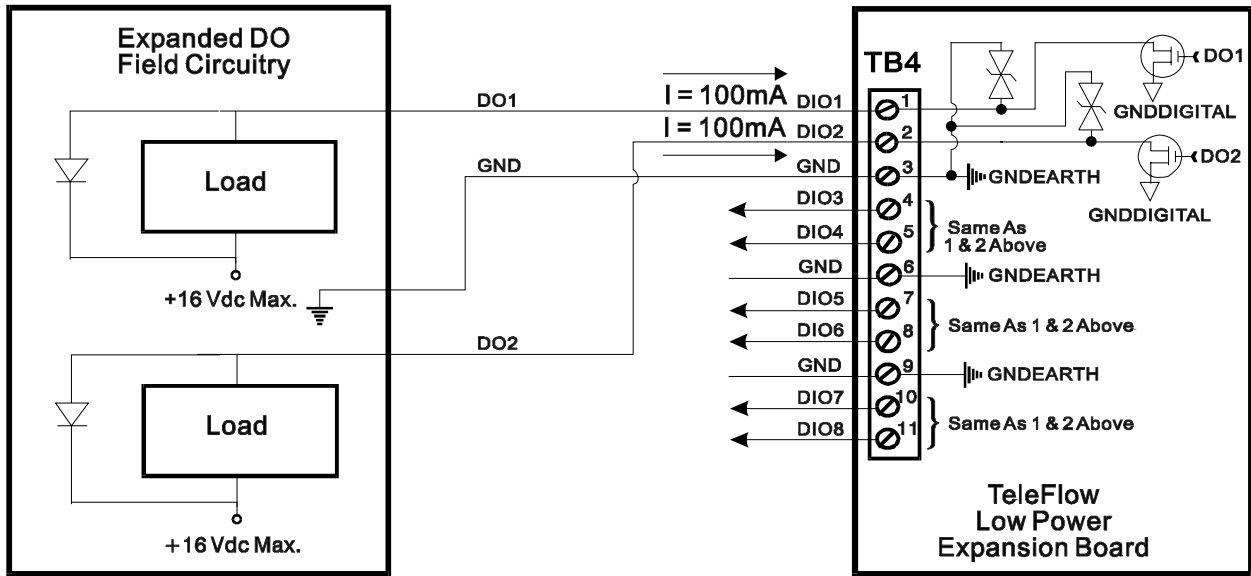

Figure 5 - LPI/OEB Discrete Output Configuration
2.2.2 LPI/OEB Discrete Output Wiring (TB4) (see Figure 5 and Table 4)